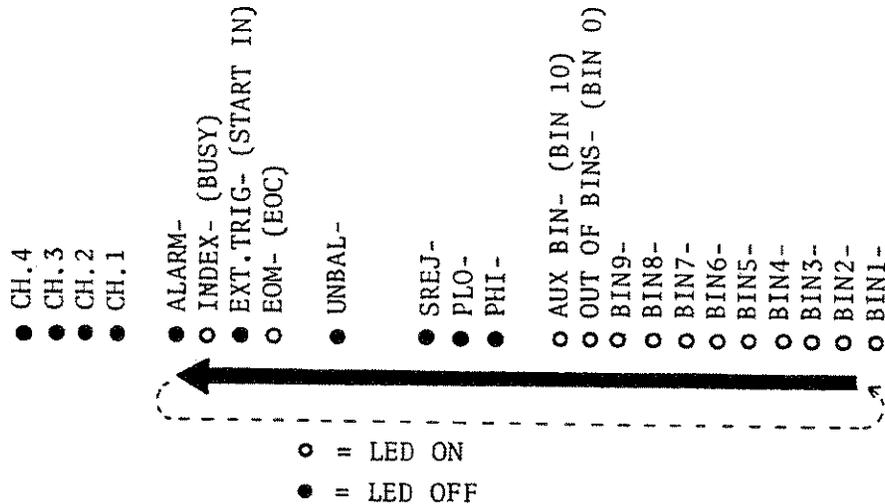

Figure 10-19. Handler Interface Function Check
4. Set SW1 and SW2 on the scanner interface board to the same settings as when the board is shipped from the factory referring to Figure 10-19.